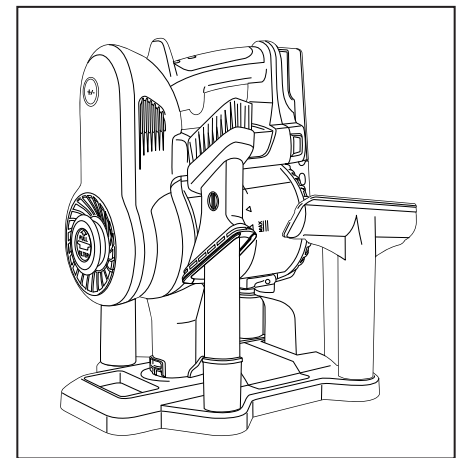

Fig. 3
3. Place the other tools on the Storage/Charging Station (Fig. 3).